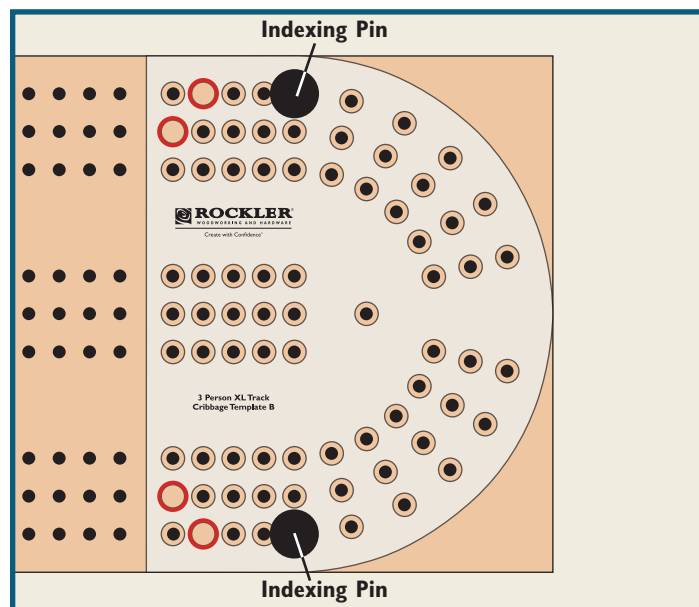

Fig. 7
9. Move the Indexing Pins to the holes shown in **Fig. 7** and drill the holes outlined in red.